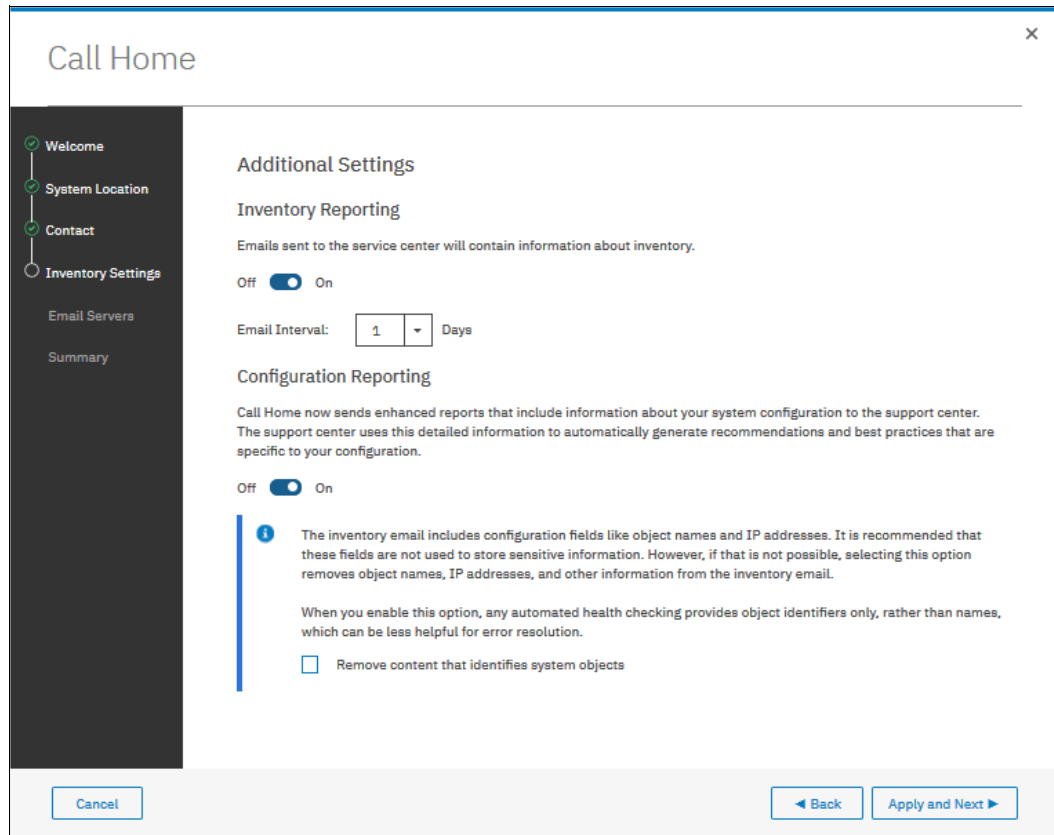

Figure 12-73 Additional Settings
The following optional settings are available, as shown in Figure 12-73:
- The first optional setting is to choose if you want to include an inventory file into your email to check the actual inventory of your system. Figure 12-73 shows the location where you can set the slider to indicate that you want to receive inventory details.